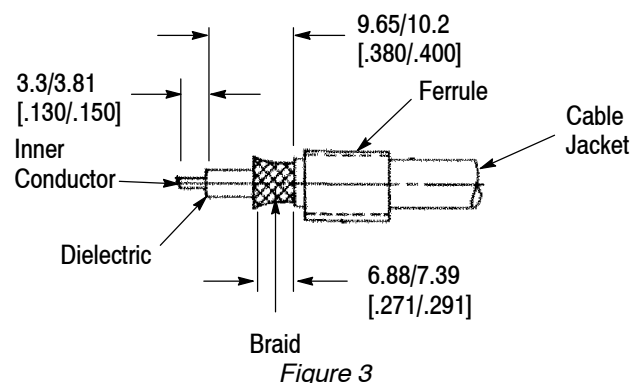

Figure 3
2.1. Preparing the Coaxial Cable End (Figure 3)
3. Trim the outer conductor to length, as shown in Figure 3.
4. Trim the dielectric to length, as shown in Figure 3.
5. Trim the inner conductor to length, as shown in Figure 3.